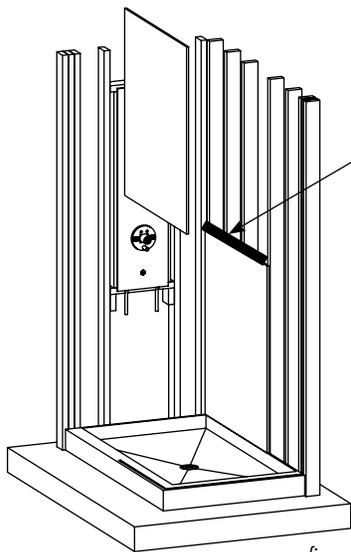

figure 16
2. Install the next cement board above the first one placed (fig. 16).